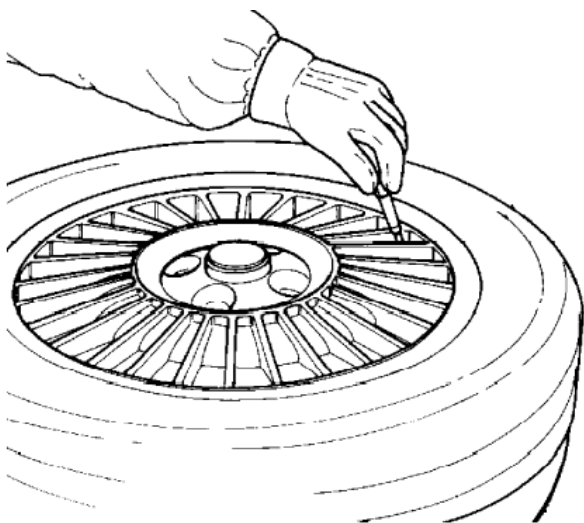

Figure 1 - Remove Valve Core to Deflate Tire
1. Deflate the tire completely by removing the valve core from the valve stem (figure 1). Be cautious and do not smoke as a *flammable gas could have been introduced into the tire at some time.*